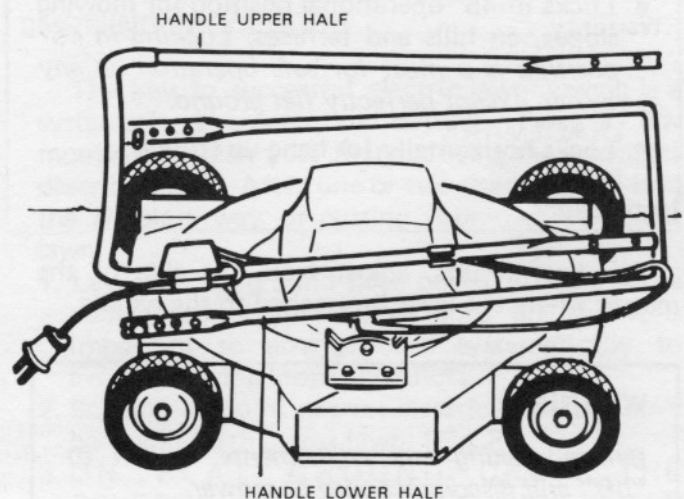

Figure 1
1. Remove all parts from the carton. The mower is shipped with all electrical connections intact and only assembly of the handle is required. (Figure 1.)